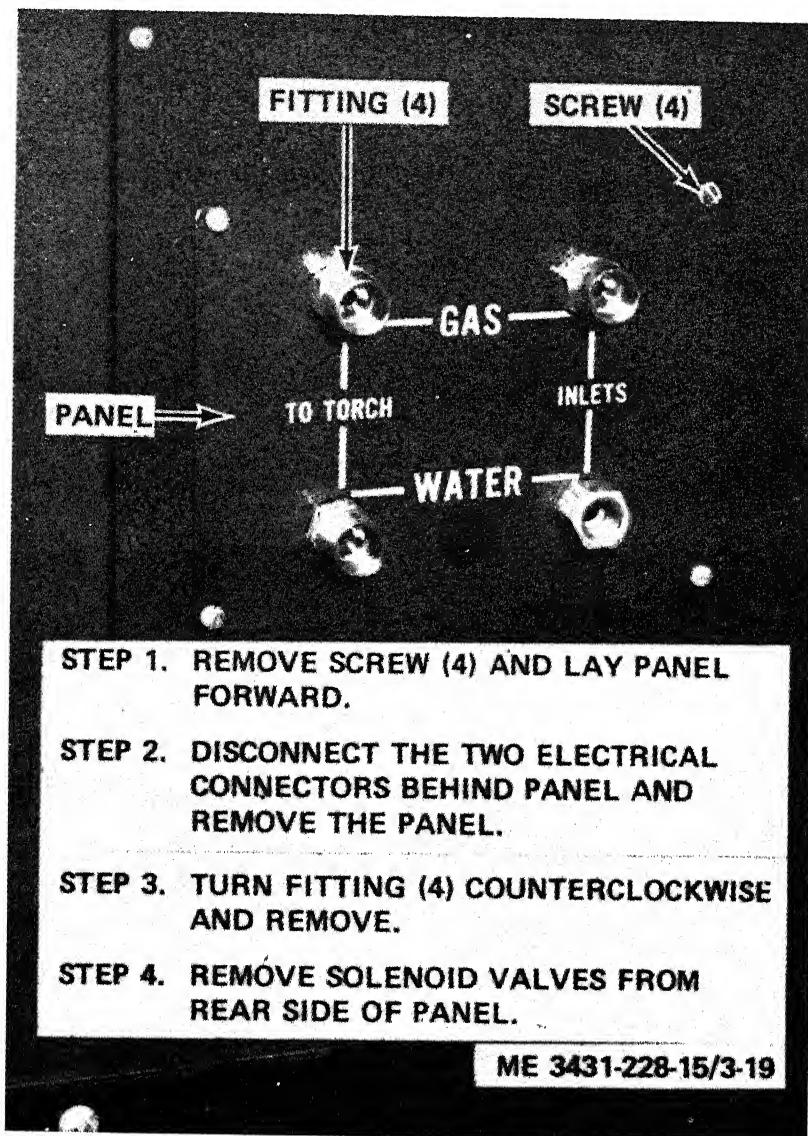

Figure 3-19. Solenoid valves, removal and installation.
a. *Removal.* Refer to figure 3-19 and remove the
b. *Installation.* Refer to figure 3-19 and install the gas or water solenoid valve.